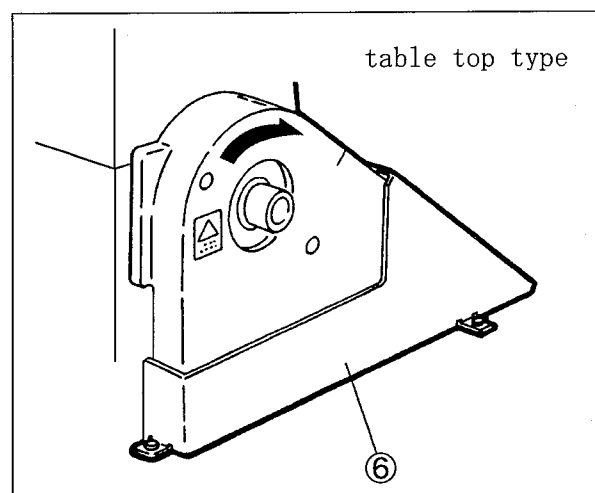

Fig. 2-11
- (2) Fix the belt cover(lower)⑥ on the machine table only for table top type. (See Fig. 2-11)